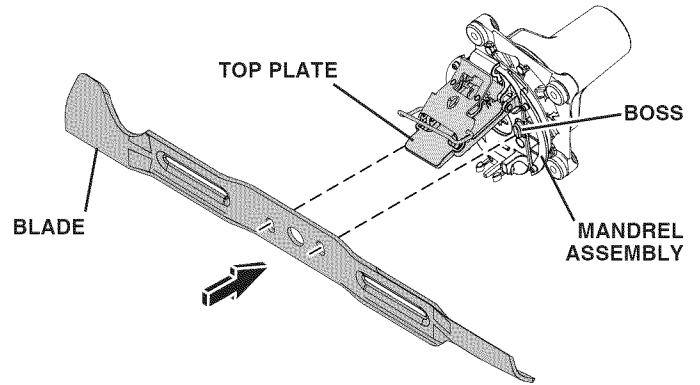

Fig. 18
- Align bosses and insert blade. (See Fig. 18.)